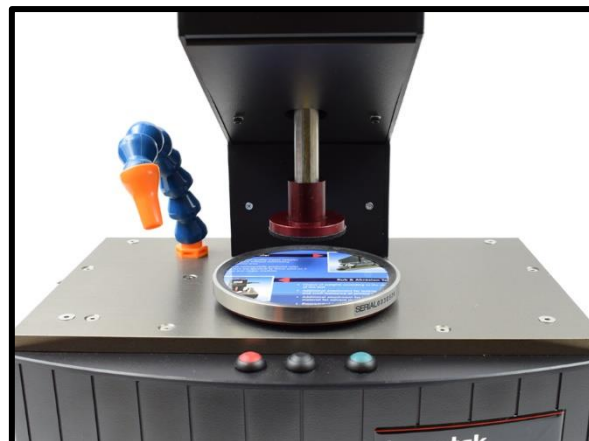

Fig 9
- Place the large cut printed sample on the bottom platen and replace the clamping ring (fig 9).